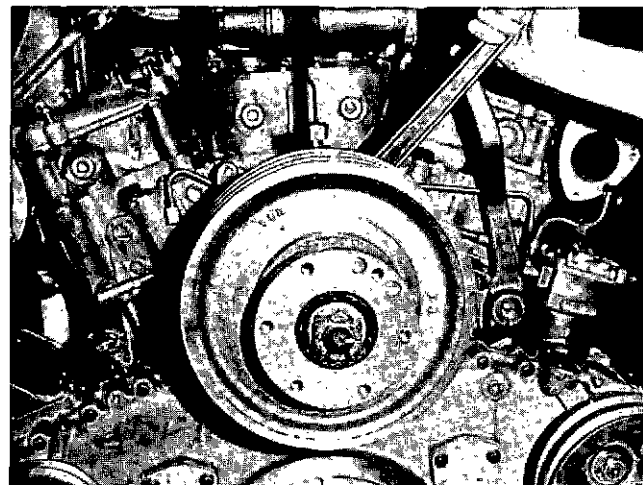

Fig. 14-1-77, V414205. Installing fan hub and pulley
1. Assemble fan hub to fan bracket as shown in Fig. 14-1-77.